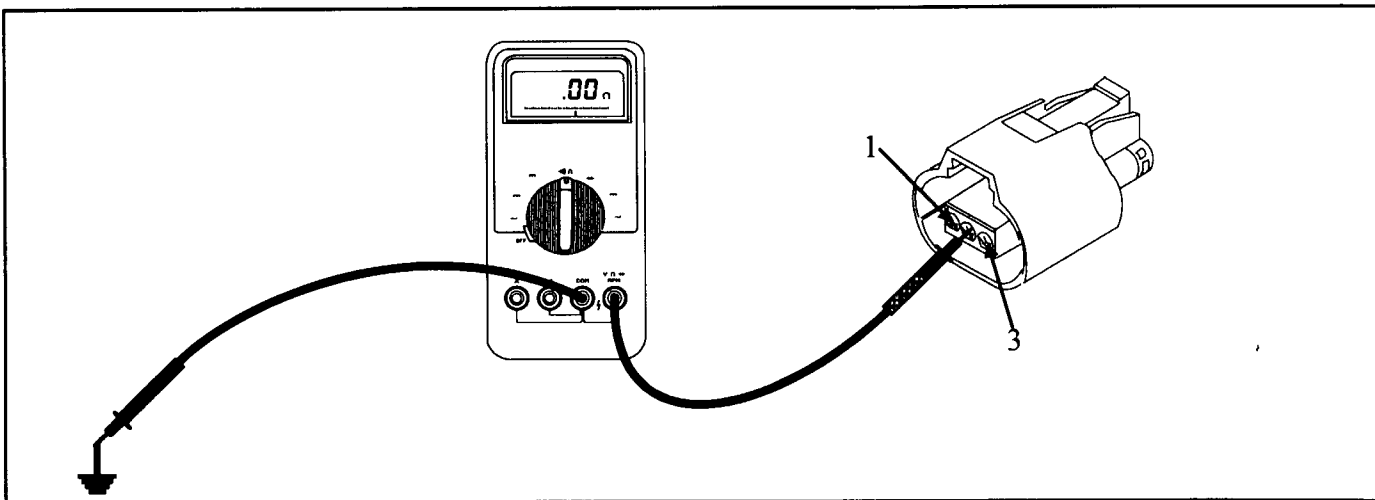

Figure 82
- Set meter to ohms and check the middle terminal for continuity as the middle wire goes to ground (See Figure 82). If continuity is seen (5 ohms or less), go to the next step. If continuity is not seen, repair or replace the wire.